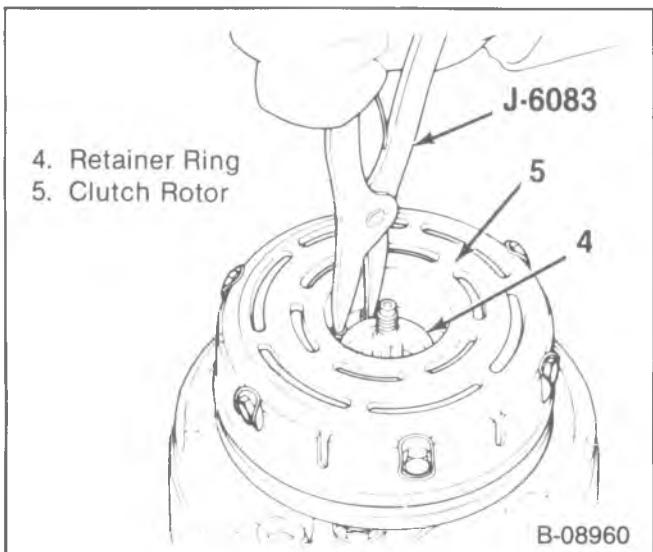

Figure 7—Removing the Rotor and Bearing Assembly Retainer Ring
1. Clutch drive hub (3).
2. Snap ring (4) with J-6083 (figure 7).
3. Rotor (6) and bearing (5) assembly.
2. Retaining ring (4) with J-6083 (figure 7).